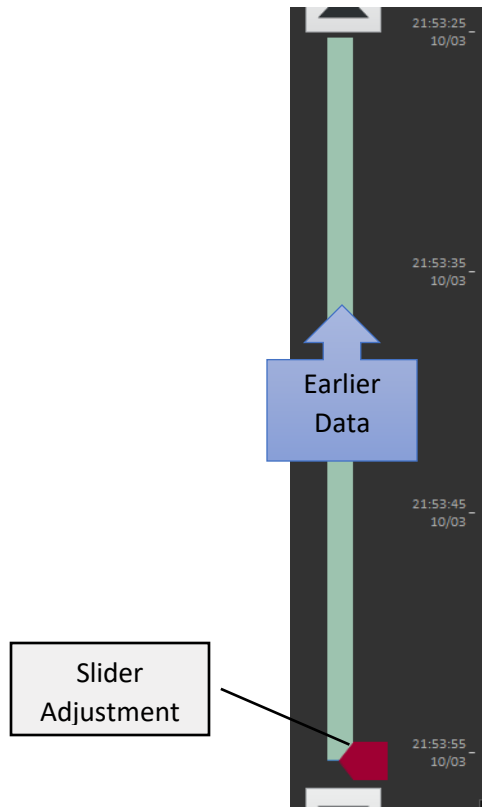

Figure 18. Historical Data Slider
The iRIS GUI gives the User the ability to review up to four (4) previous hours of data. *See Figure 18*